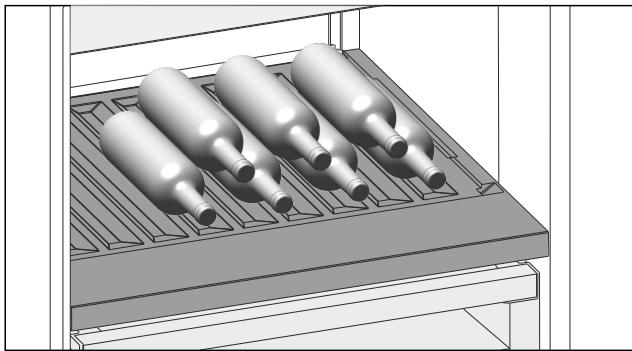

Fig. 85
- ▶ Place bottles in the back row with their bases against the back wall. (see Fig. 85)